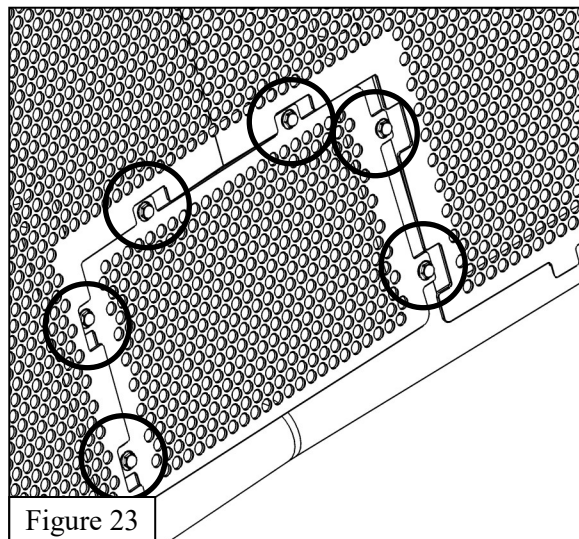

Figure 23
13. For models with front cameras, remove the screen in the Grille Guard as shown in **Figure 23**.